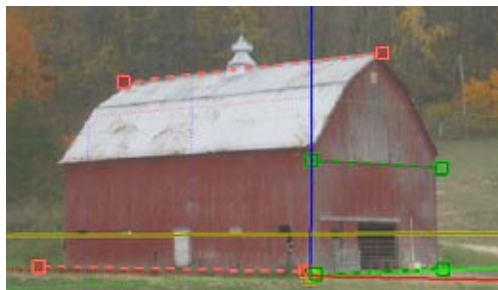

Figure 9-52
5. The red and green axis bars are used to define the red and green axes of the model. Use lines and points in the photo to place and orient these bars. To maximize accuracy, it's good practice to place the bars as far apart as possible, and to use the longest possible distance along each bar. Figure 9-52 shows the red bars along the top and bottom of the side, and the green bars at the top and bottom of the front.